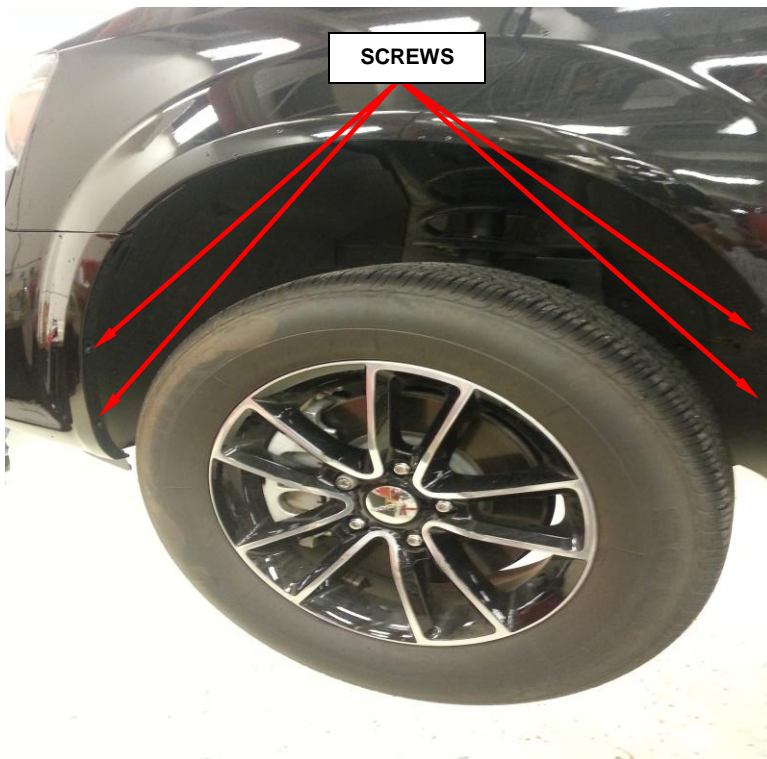

Figure 21 – Right Front Splash Shield
4. Remove the four screws and five pushpins from the splash shield and remove the shield (Figure 21).
8. Reposition the splash shield cover and install the pushpins and screws (Figure 21).